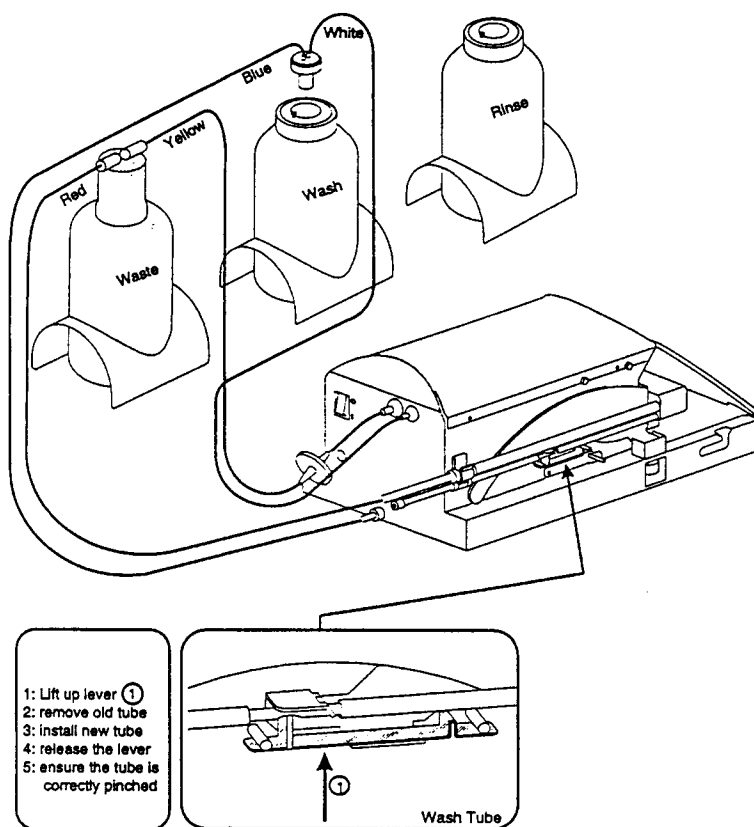

Fig. 3 Fluidic connection of the washer and blue manifold tube replacement procedure
- b) Connect the white tube from the rear instrument panel of the washer to the wash bottle (white dot). (Fig. 3).